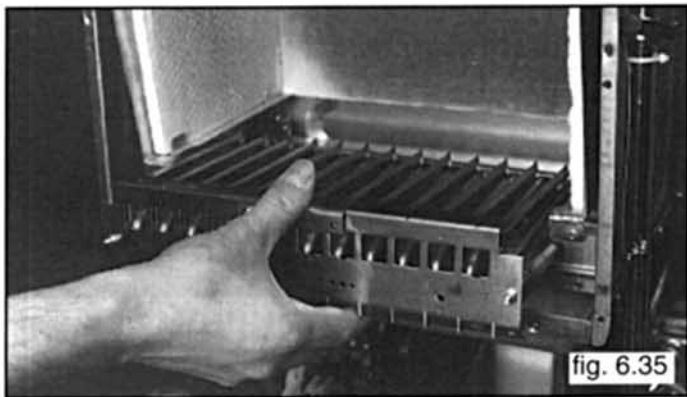

fig. 6.35
- 5 Remove the burner (see fig. 6.35);